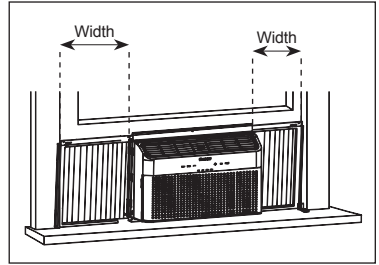

FIGURE 17
- 10** Once the installation is complete, measure the width between the air conditioner's outer casing and the window frame, as seen in Figure 17.